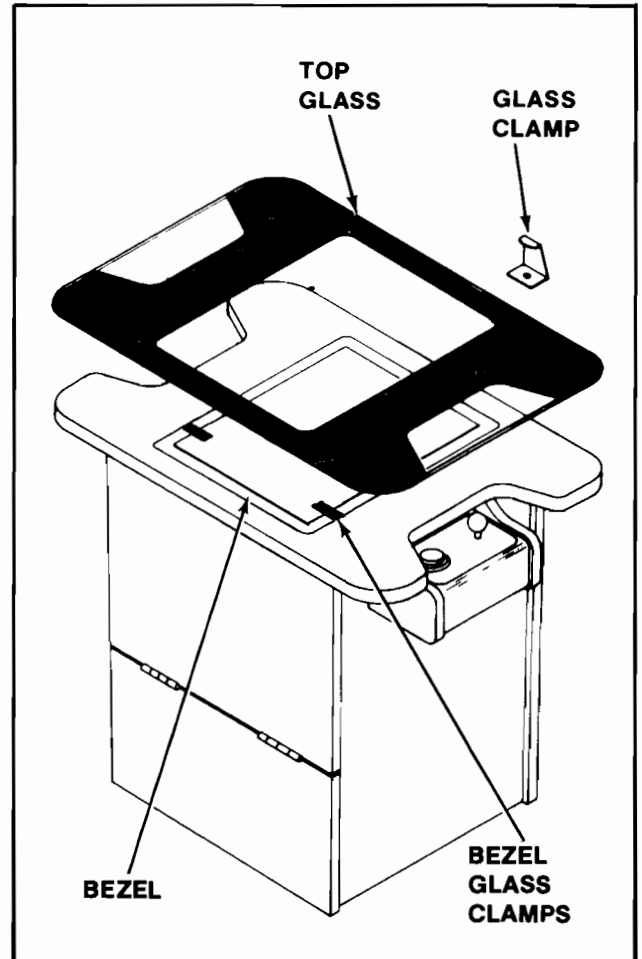

Figure 2-13 Removing the T.V. Bezel - Cocktail
**2.6.3 COCKTAIL TABLE MODEL:** (See Figure 2-13)